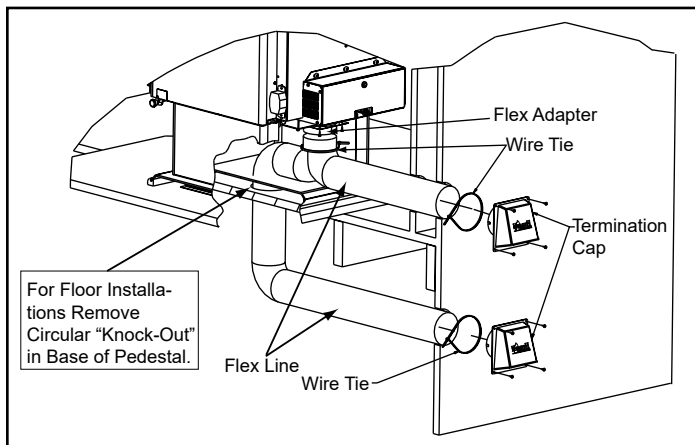
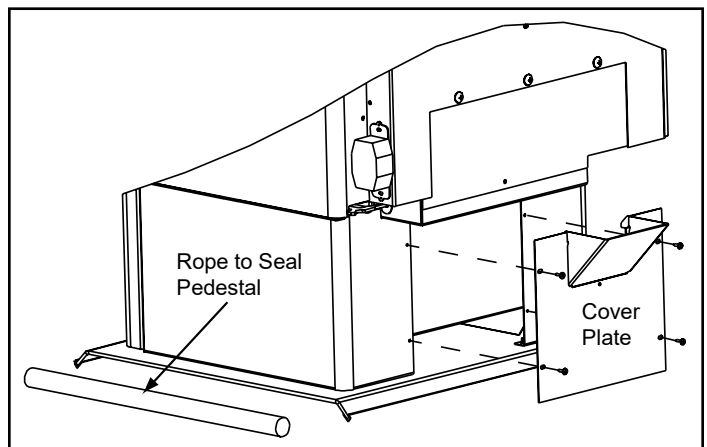

Figure16.1 - Floor & Rear Installation
Figure 16.2 - Floor Installation Alternative
2. Using a #2 Phillips screw driver attach the flex adapter to the appliance using 4 screws (**Figure 16.1**).
In some instances you may not be able to install the flex pipe as show in **Figure 16.1**. If that is the case, you will need to order SRV7033-041 which includes a cover plate and sealing rope as shown in **Figure 16.2**. The goal is to seal the pedestal so no room air can leak into the pedestal or for cold air infiltration.